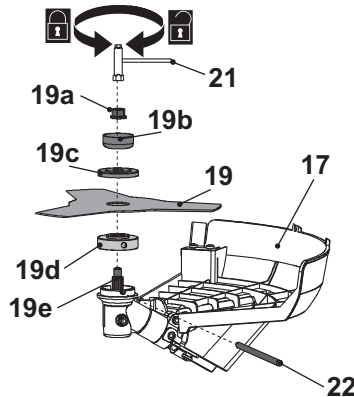

Fig. 9
- Insert the spindle lock rod (22) into the hole to lock the spindle (19e).
- Loosen the trimmer head (18) clockwise by hand and remove it together with the locking flange (19c).
- Fit the cutter blade (19) onto the spindle (19e). Ensure that the cutter blade (19) sits flush on the extruded ring on the backing flange (19d).
- Place the locking flange (19c) onto the cutter blade (19).
- Secure the cutter blade (19) by tightening the nut (19a) counter-clockwise using the supplied multi tool (21) and spindle lock rod (22).
- Remove the multi tool (21) and the spindle lock rod (22).
- Remove the blade protector (19f) (if provided) from the cutter blade (19) before operation (Fig. 9).